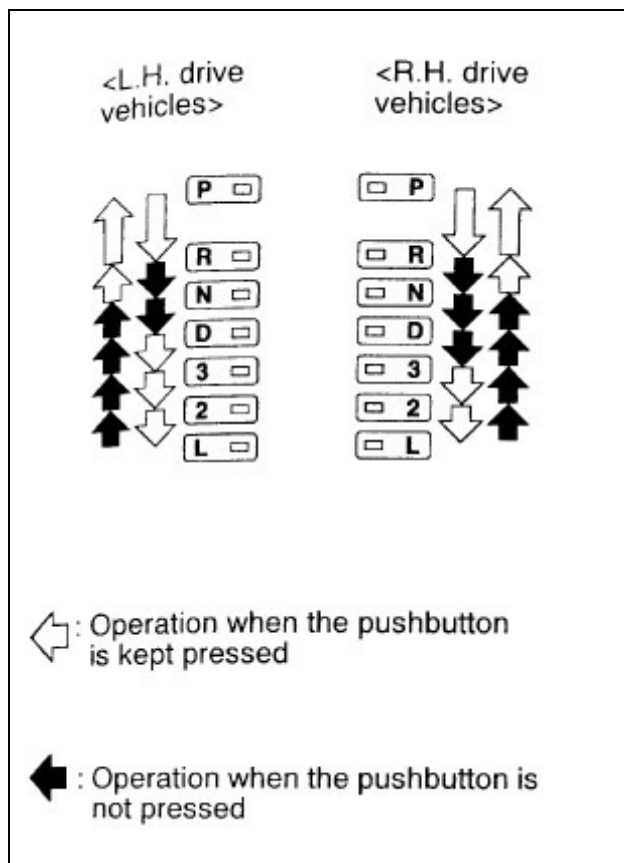

Fig.11-139
2)shift lever operation check as Fig.11-139